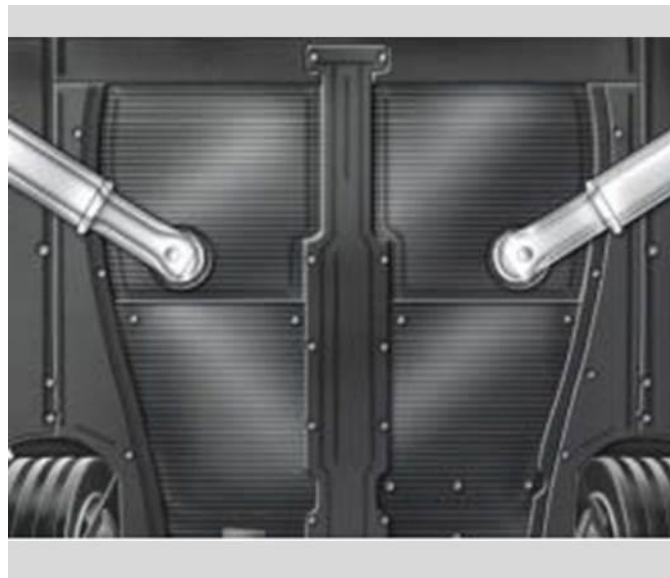

Fig. 3 Front Lifting Points
5. The support points for lifting the front part of the vehicle are shown in (Fig. 3).